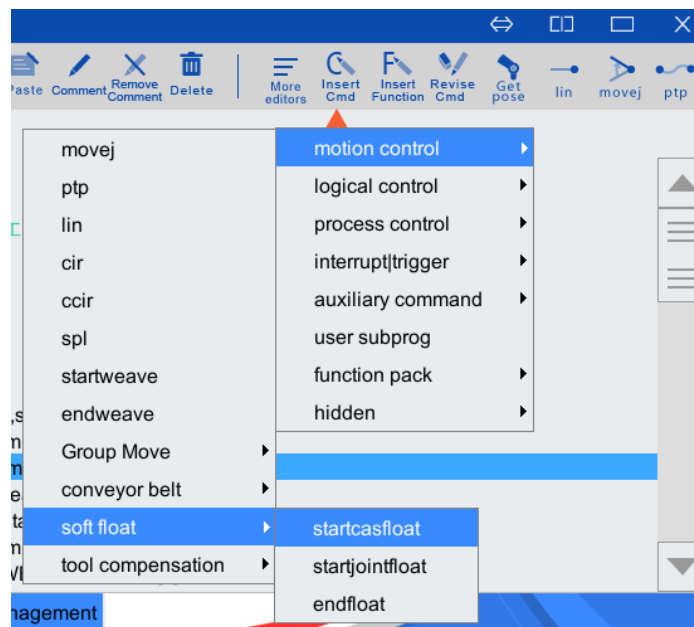

Figure 5-10 Instruction selection interface
Step1. Click [Insert Cmd/Motion Control/Soft float], and select [startcasfloat] in the drop-down submenu. As shown in Figure 5-10.